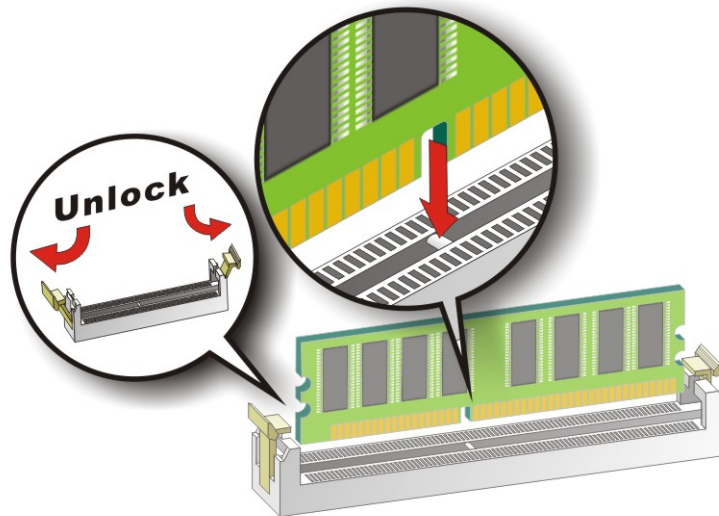

Figure 5-7: Installing a DIMM
To install a DIMM, please follow the steps below and refer to **Figure 5-7**.
- Step 1: Open the DIMM socket handles.** The DIMM socket has two handles that secure the DIMM into the socket. Before the DIMM can be inserted into the socket, the handles must be opened. See **Figure 5-7**.
- Step 2: Align the DIMM with the socket.** The DIMM must be oriented in such a way that the notch in the middle of the DIMM must be aligned with the plastic bridge in the socket. See **Figure 5-7**.
- Step 3: Insert the DIMM.** Once properly aligned, the DIMM can be inserted into the socket. As the DIMM is inserted, the white handles on the side of the socket will close automatically and secure the DIMM to the socket. See **Figure 5-7**.